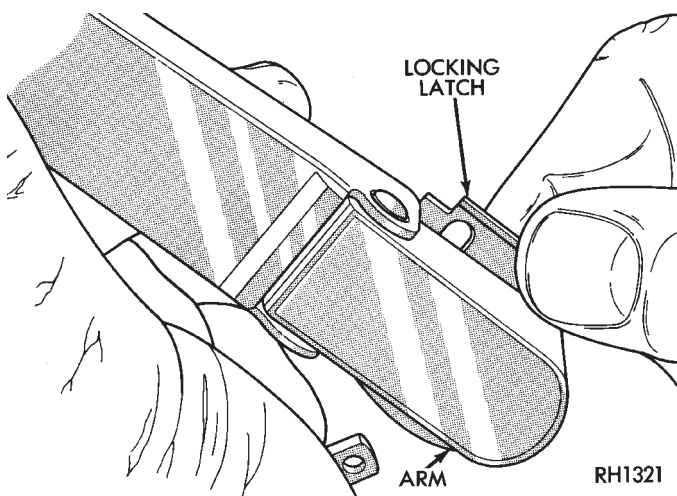

Fig. 6 Wiper Arm Remove/Install
(1) Open the hood of the vehicle.
(2) Lift the wiper arm to permit the latch to be pulled out to its holding position, then release the arm (Fig. 6). The arm will remain off the windshield with the latch in this position.
(3) Remove the arm from the pivot using a rocking motion.